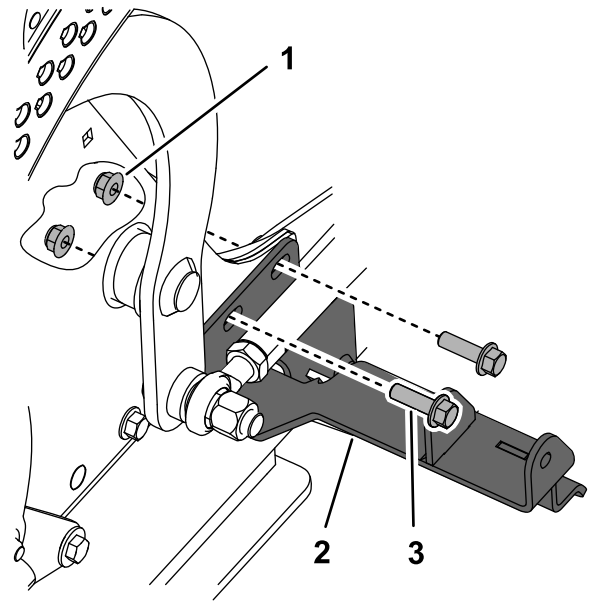
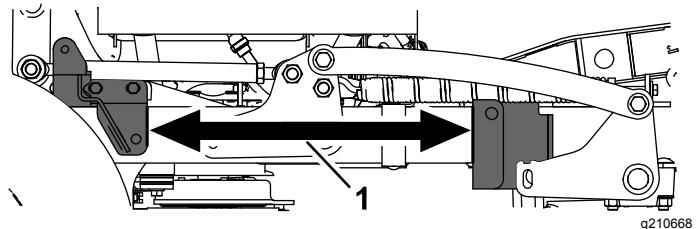
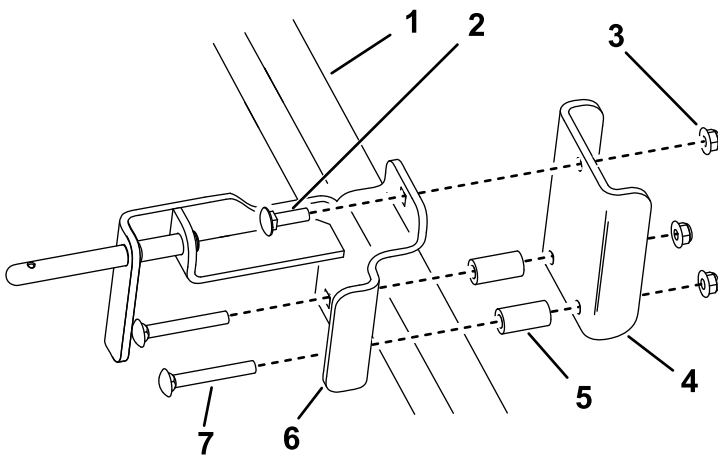

Figure 2
Figure 3
Figure 4
2. Remove the 2 bolts (3/8 x 1-1/4 inches) and 2 nuts (3/8 inch) from the right side of the machine (Figure 2).
3. Use the bolts and nuts you just removed to secure the rear bracket from the kit and the fan shroud to the machine frame (Figure 2). Torque to 41 to 49 N·m (30 to 36 ft·lb).
4. Loosely install the front bracket and back plate to the right tube frame, approximately 44 cm (17-1/4 inches) in front of the rear bracket (Figure 3), using 1 carriage bolt (3/8 x 1-1/4 inches), 2 carriage bolts (3/8 x 2-3/4 inches), 2 spacers, and 3 nuts (3/8 inch) as shown in (Figure 4).
8. If you will be installing a bagger to the machine, remove the front and rear brackets (see Figure 2 and Figure 4). Install the bolts and nuts from the rear bracket to the secure the fan shroud to the machine.